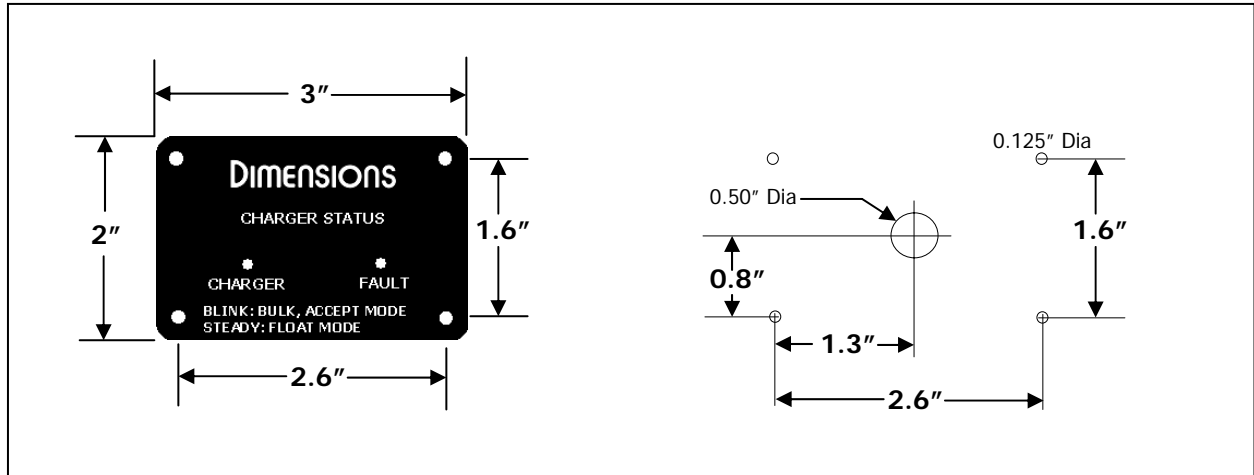

Figure 6: LED Remote status panel footprints – 245029 and 245030
- Mount the LED remote status panel in a convenient, visible and accessible location. See figure 6 for mounting footprint.